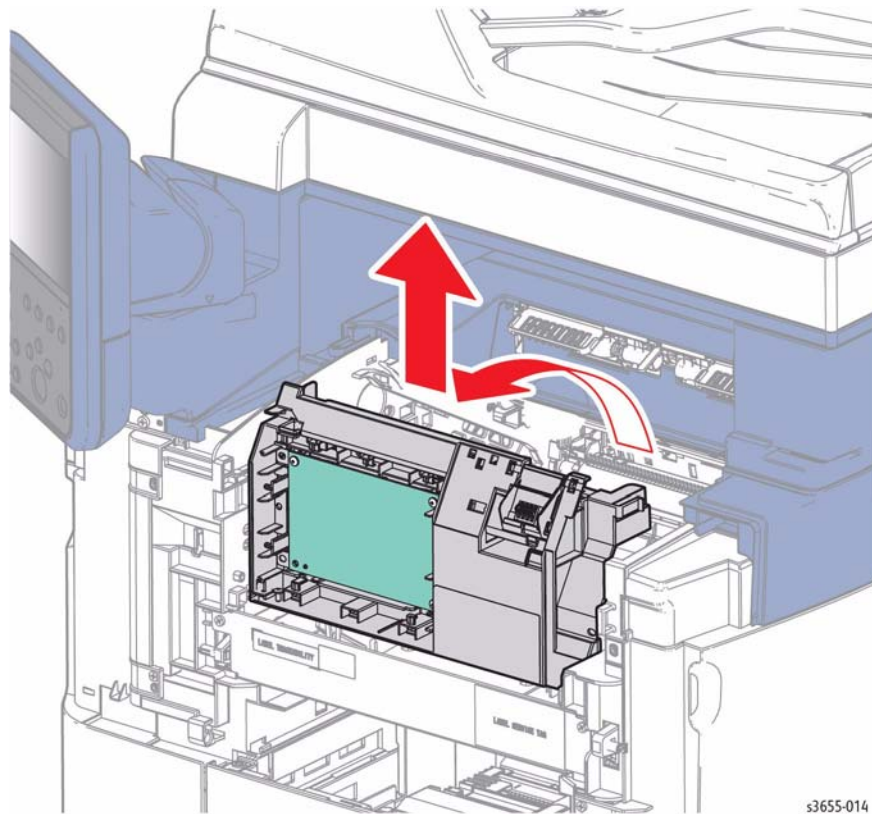

Figure 3 Rotate the MCU Housing
8. Refer to Figure 3 to locate and release 1 hook at the right side, rotate the housing forward, then lift the housing off of the pins and rest the housing at the front of the printer.